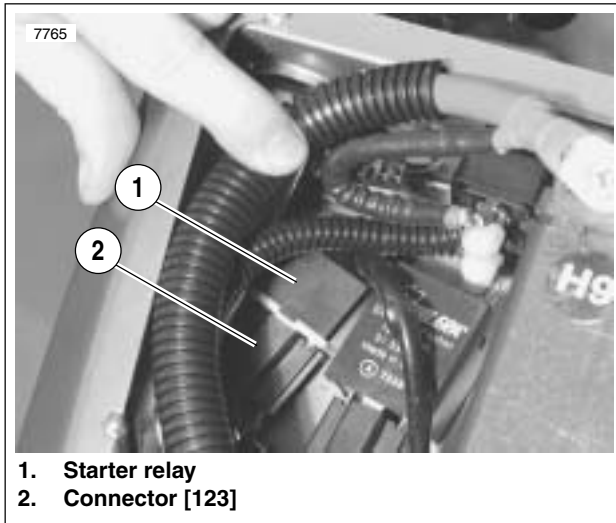

Figure 5-6. Starter Relay Connector
1. See Figure 5-6. Locate starter relay. The relay is attached to relay connector [123] located to the right of the battery underneath the seat.